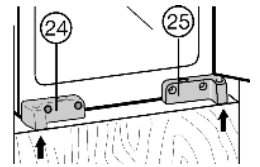

Fig. 12
- ▶ Adjust the appliance in depth: align front edge of bearing support Fig. 12 (24), bearing support Fig. 12 (25) and mounting bracket Fig. 12 (22) flush with the front edge of the unit base and side wall.